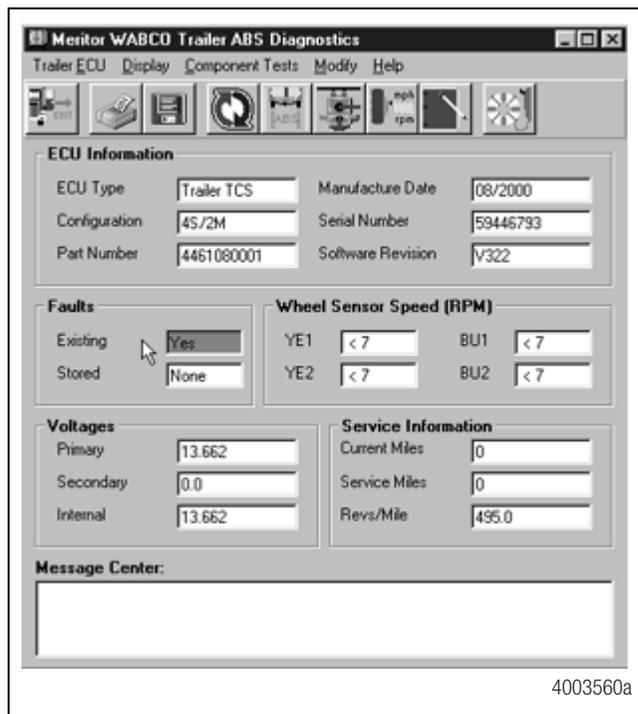

Figure 15
- Apply 12 volts DC to the blue wire (constant). Check the screen for correct voltage (9.5 to 14 volts). Constant power voltage is displayed in the **Primary** field. Figure 15.
- Apply 12 volts DC to the red wire (stoplight power). Check the screen for correct voltage (9.5 to 14 volts). Stoplight power voltage is displayed in the **Secondary** field. Figure 15.